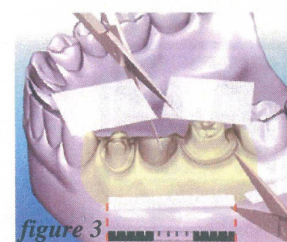

figure 3
3. Cut the Fiber or Mesh into suitable pieces (*figure 3*). Single layers of Mesh and Fiber are enough. Add a second layer when the bridge contains more than one pontic.